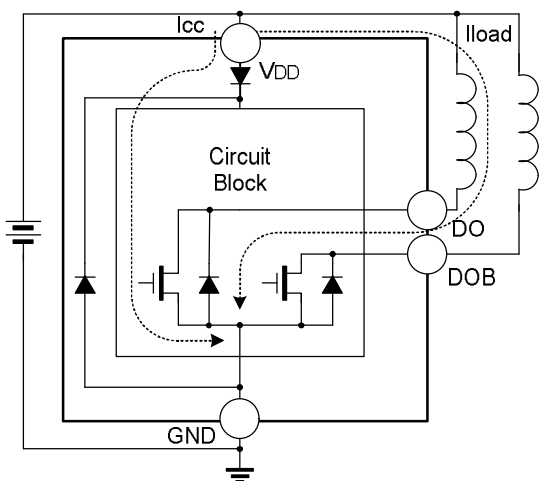

Fig.2 Normal working state
2. Figure 2 is the normal working state, the current compose  $I_{CC}$  and  $I_{load}$ , power dissipation  $PC = V_{DD} * I_{CC} + V_o * I_{load}$ , Where  $V_o$  is the output voltage when DO or DOB turn on; It is need to be careful not to exceed its maximum power dissipation value dule to change of power supply voltage  $V_{DD}$  and the coil current  $I_{load}$ .